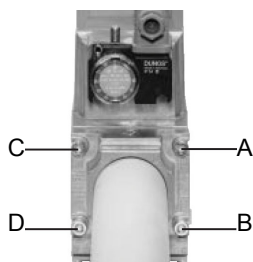
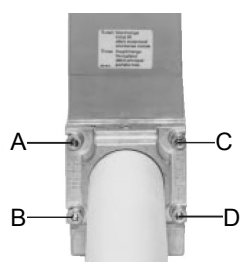

Fig. 10
Fig. 11
1. Loosen screws A and B **do not** unscrew (Fig. 10 - Fig. 11).
2. unscrew screws C and D (Fig. 10 - Fig. 11).
3. Remove MultiBloc between the threaded flanges (Fig. 11).